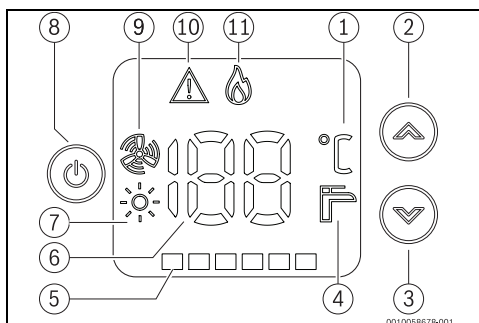

Fig. 3 Pantalla digital
- ▶ Pulsar la tecla ON / OFF (Fig. 3, [8]).